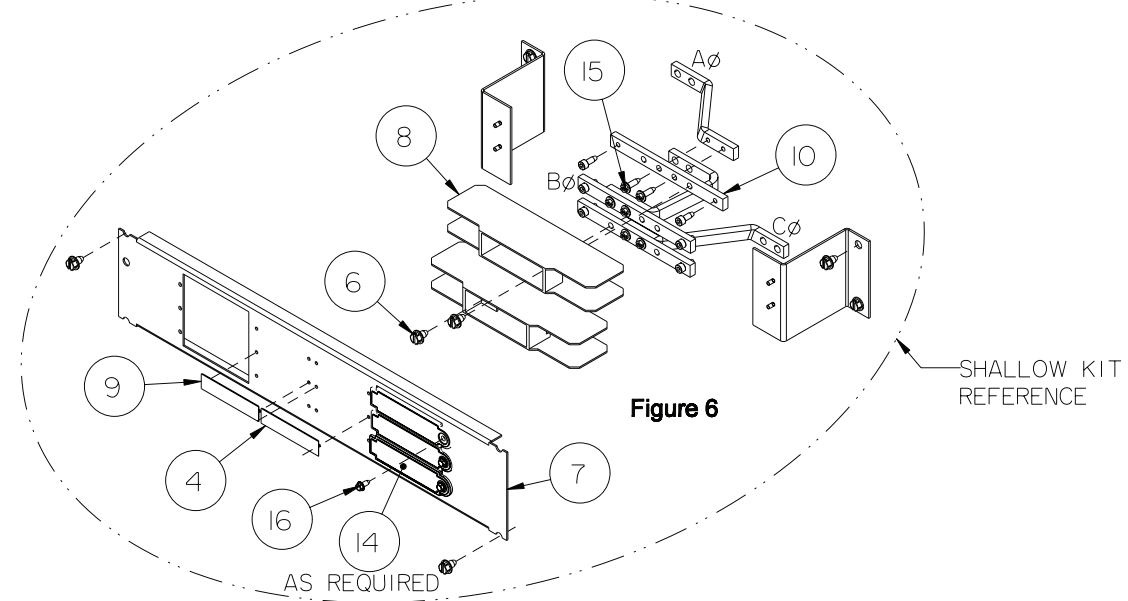

Figure 6
7. Reference fig. 6 - Installing the line connector & barrier. Align the two center holes of the line connector (item 10) with the A/C ø branch bus. Align the two outside holes of item 10 (as shown in fig. 6) with the Bø branch bus. Secure all line connectors with 10-24 X 5/8" screws (item 15). Insert a 1/4-20 X 3/8" screw (item 6) through each of the 0.25" diameter holes in the barrier support (item 8) and into the 0.218" diameter holes in the line connector (item 10) and tighten. Torque all hardware as specified on the rear of the deadfront.